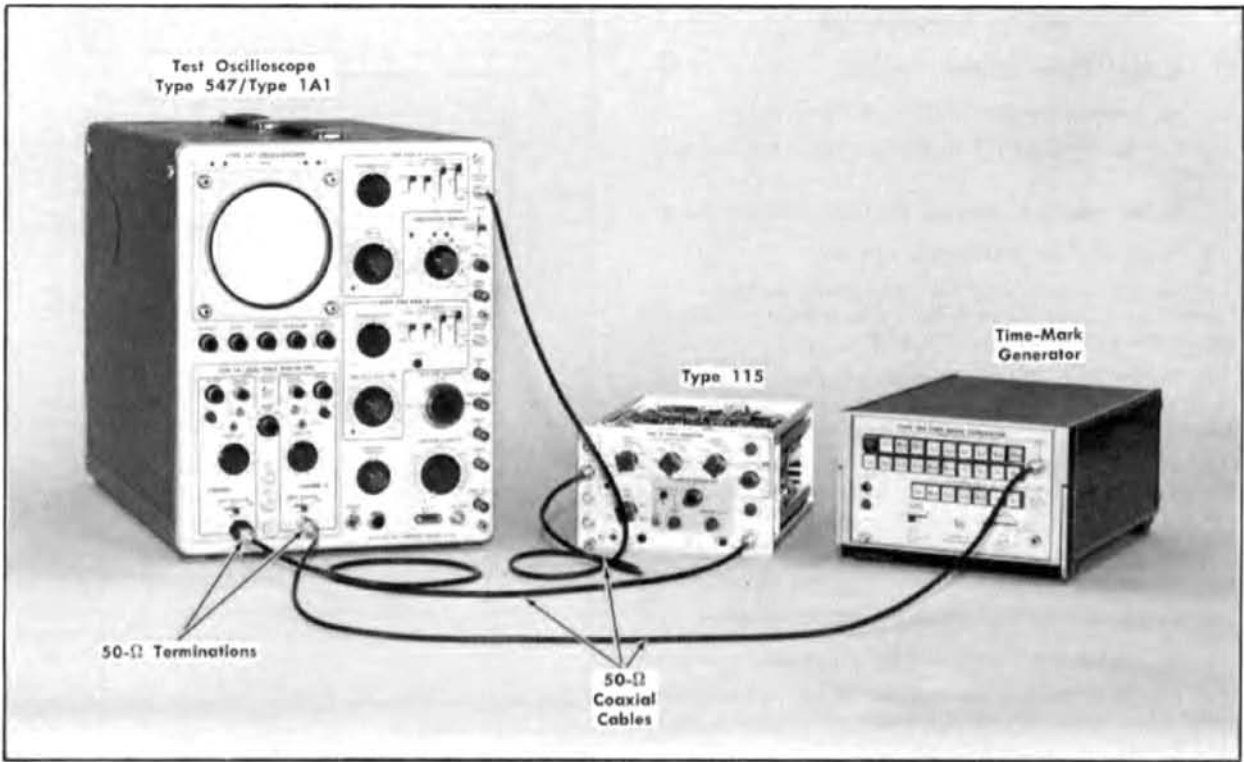

Fig. 5-17. Initial test equipment setup for steps 21 through 26.
- a. Test equipment setup is shown in Fig. 5-17.